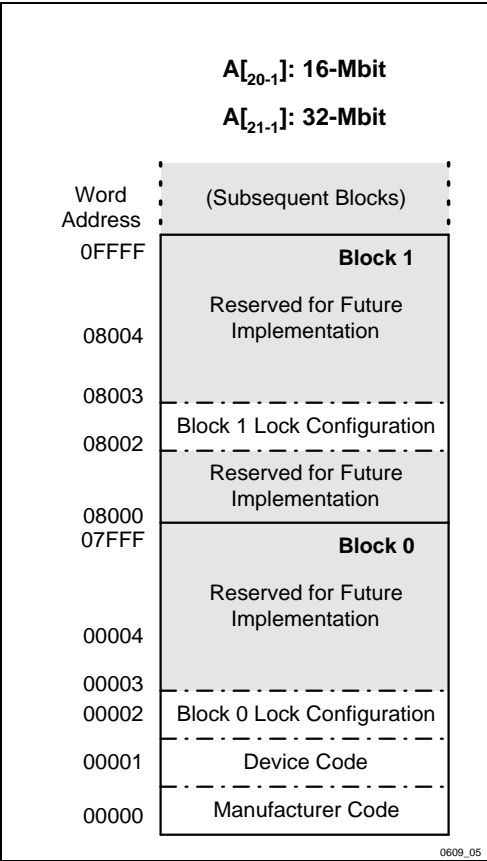

Figure 5. Device Identifier Code Memory Map
-002	<p>Added commercial temperature information throughout the document.</p> <p>Updated address in Figure 5.</p> <p>Added descriptive information for CFI query to Section 4.2.5, System Interface Information</p> <p>Updated addresses and added descriptive information in Table 9 and Table 10.</p> <p>Corrected documentation errors in Table 15 and Table 16.</p> <p>Updated Figure 6. Modified decision diamond for checking counter.</p> <p>Corrected documentation errors in Figure 11 and Figure 12.</p> <p>Updated Table 19 to include commercial and extended temperature range specifications.</p> <p>Updated note 4 in Table 19 for clarification.</p> <p>Updated Table 20 to show 16 Mb/32 Mb specifications more clear and corrected documentation error.</p> <p>Corrected documentation error in Figure 17 and Table 23.</p> <p>Updated package designators and order codes in Appendix A.</p>
The read-identifier codes operation outputs the manufacturer code, device code, and block lock configuration codes for each block configuration (see Figure 5). Using the manufacturer and device codes, the system software can automatically match the device with its proper algorithms. The block-lock configuration codes identify each block's lock-bit setting.